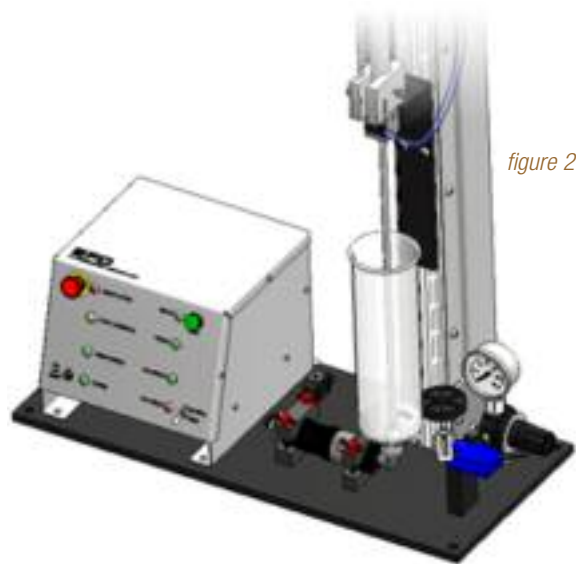

figure 2
- Loosen the two cylinder plate mounting screws and adjust the height of the cylinder assembly until the tip of the cylinder rod just touches the bottom of the cartridge. When the assembly is in place, tighten the cylinder plate mounting screws as shown in figure 2.